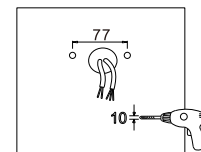

Figure 19
4. FLOOD MOUNTING (FM)
Step 1: Drill holes on the wall as shown. (Figure 19)